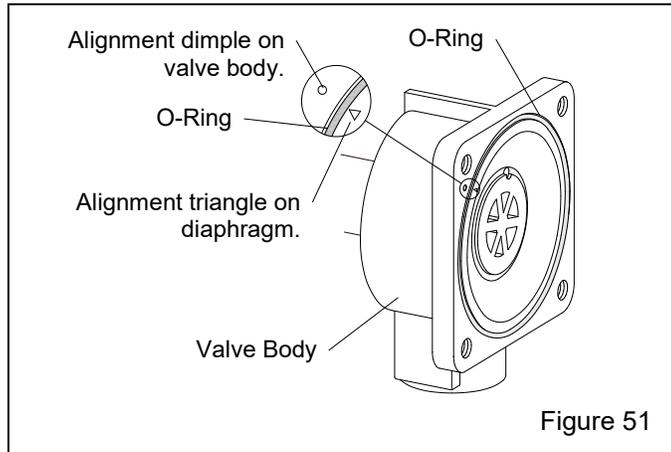

Figure 51
**7.17.2** Remove the four cover screws and remove the cover, while keeping the diaphragm in place within the body. **NOTE: Before removing the diaphragm and O-ring, note the round dimple on the upper left on the valve body and the position of the triangular shape on the upper left of the diaphragm, as shown in Figure 51. When reinstalling the diaphragm, the marks must be aligned as shown.**
**7.17.3** Reassemble using the new diaphragm and O-ring from the service kit, making sure the diaphragm is correctly aligned, as noted in Figures 51 and 52, and that the O-ring is seated into the groove.